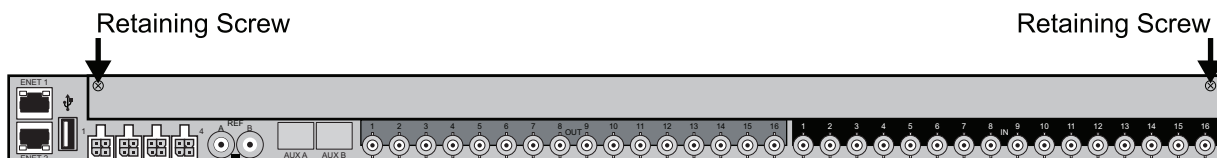

Figure 2 Ultrix Rear Panel — Retaining Screw Locations on the Blank Plate
2. Use a #1 Phillips screwdriver to disengage the captive retaining screws on either end of the blank plate. Refer to **Figure 2** for screw locations.